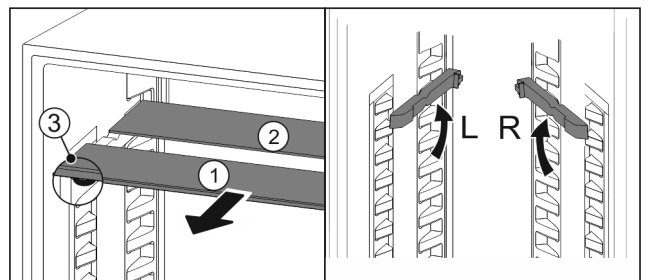

Fig. 19
- ▶ Pull the glass panels out Fig. 19 (1) from the front, one at a time.
- ▷ The glass panel Fig. 19 (1) and trim strip are at the front.
- ▷ The stops Fig. 19 (3) point down.